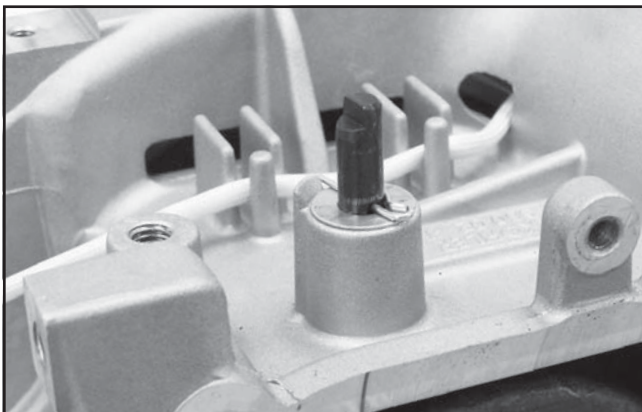

Figure 9-60. Removing Governor Cross Shaft Hitch Pin.
2. Remove the hitch pin and washer from the governor cross shaft. See Figure 9-60.